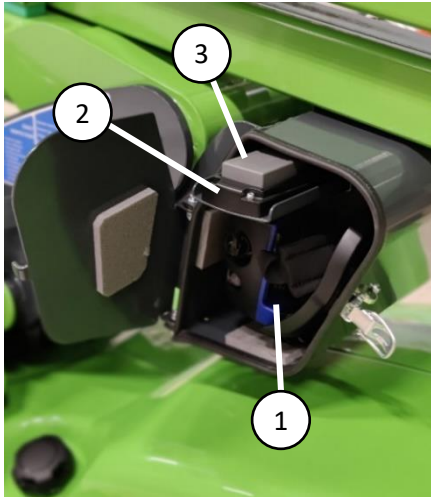

Figure 8. Lower control panel
- Emergency stop switches in upper (figure 7 (11)) and lower control panels (figure 8 (4)) can be used at any time.